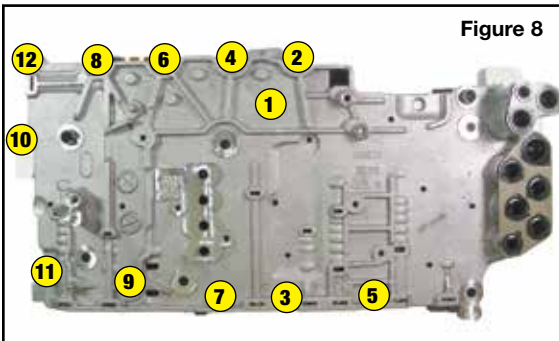

Figure 8
- Remove the 12, 7mm head bolts (**Figure 8**).
- a. Install the 12, 7mm head bolts and torque to 71 in-lbs. in sequence shown (Fig. 8).